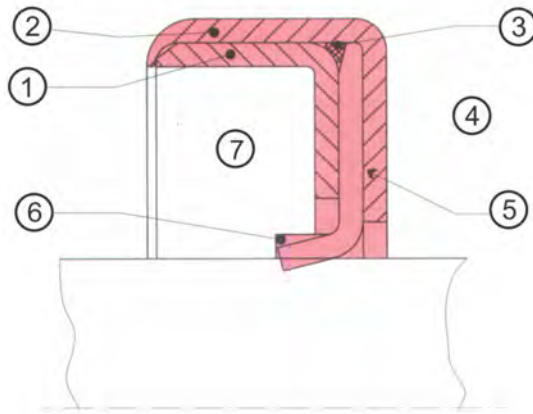

Figure 1: Rotary shaft seal with PTFE sealing lip after installation
4. With all rotary shaft seals, the sealing lip must be directed towards the medium to be sealed (see Figure 1).